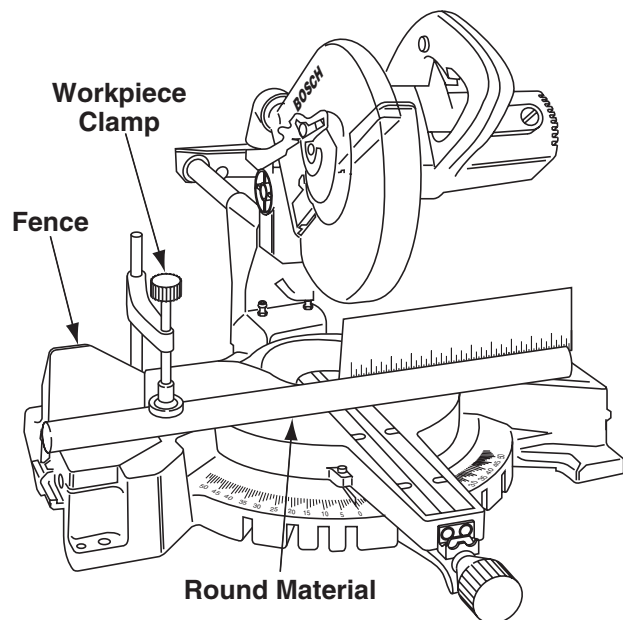

Figure 37. Round Material
**⚠ WARNING** For round material such as dowel rods or tubing, always use a clamp or a fixture designed to clamp the workpiece firmly against the fence and table. Rods have a tendency to roll while being cut, causing the blade to “bite” and pull the work with your hand into the blade (Figure 37).